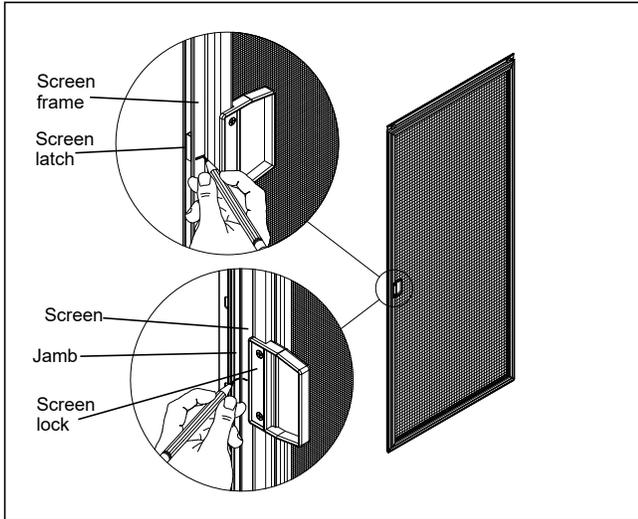

Figure 4
1. To install the screen lock on side (or center) jamb, raise (unlock) the screen latch. Open the screen and lightly mark the location of bottom of latch with a pencil on the exterior face of the screen. Close the screen against the jamb. Transfer latch location from the screen frame to the jamb. See figure 4.